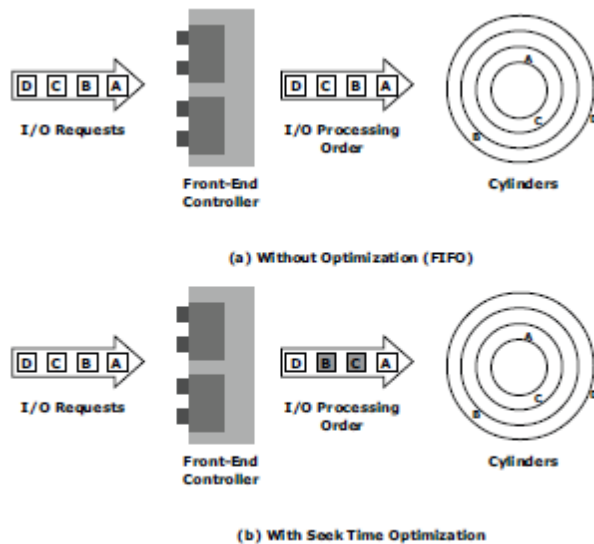

Figure 4-2: Front-end command queuing
■ **First In First Out (FIFO):** This is the default algorithm where commands are executed in the order in which they are received (Figure 4-2 [a]). There is no reordering of requests for optimization; therefore, it is inefficient in terms of performance.
in the order they are received. For example, as shown in Figure 4-2(a), the commands are executed in the order A, B, C and D. The radial movement required by the head to execute C immediately after A is less than what would be required to execute B. With seek time optimization, the command execution sequence would be A, C, B and D